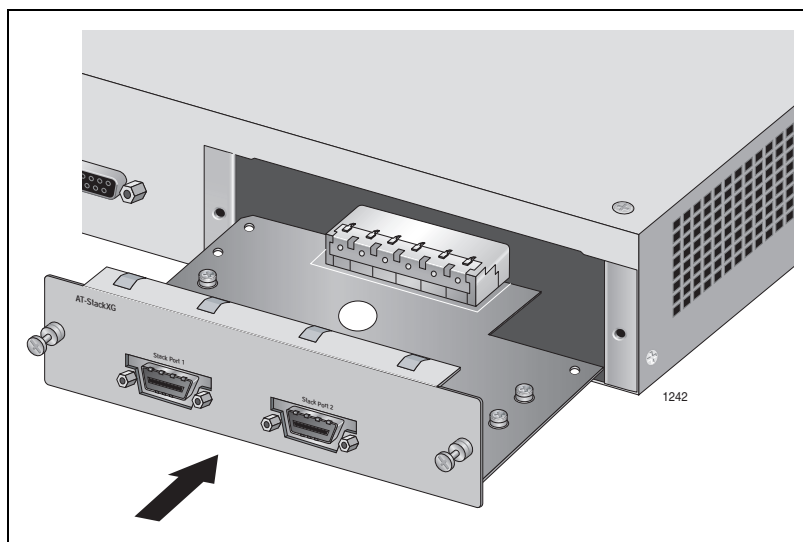

Figure 36. Installing the AT-StackXG Stacking Module
3. Align the edges of AT-StackXG module with the guides in the slot and carefully slide the module into the chassis until it is flush with the rear panel of the chassis, as shown in Figure 36 on page 74. Light pressure may be needed to seat the module on the connector on the rear panel of the chassis.